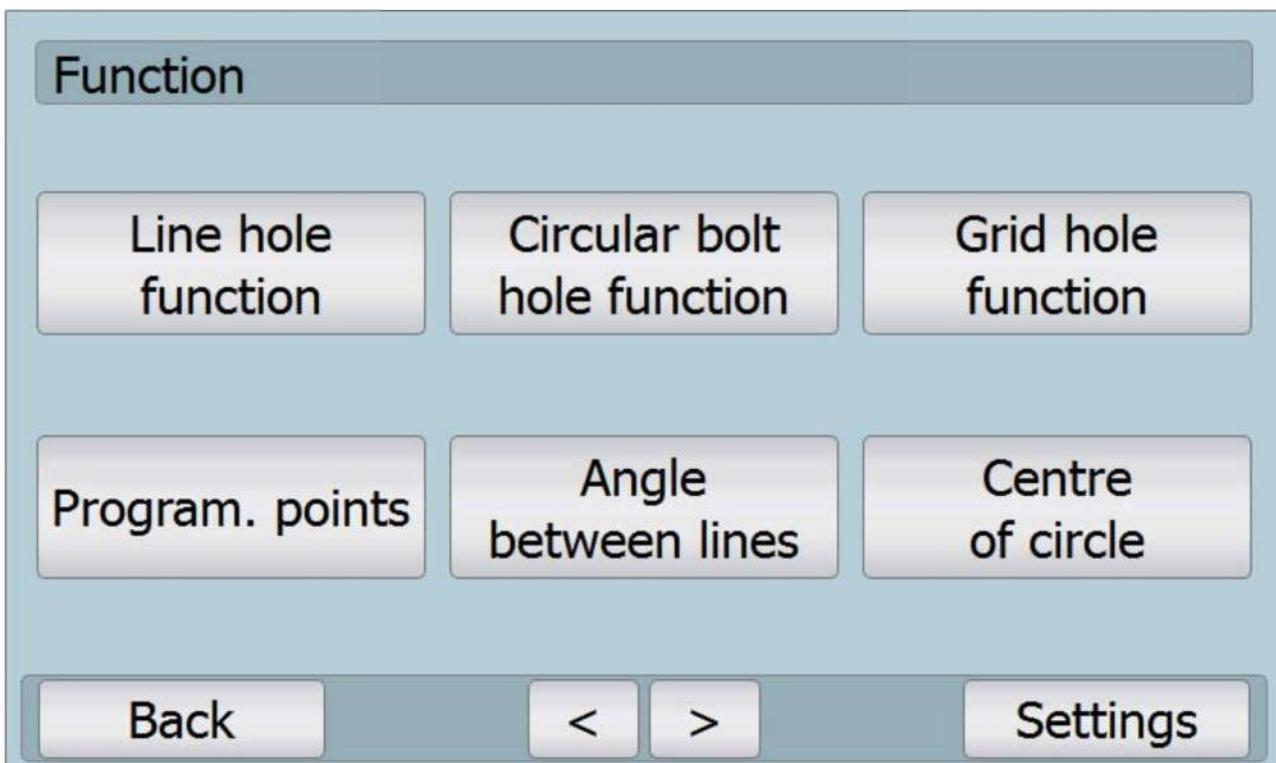

Fig. 7: The extension menu functions for the device type miller
⑩ Pressing the button „Menu“ displays the option with functions and setting. If in the mode for the grinder or the lathe, the buttons are not displayed „<“ a „>“ for other functions.
⑩ If in the mode for the miller and the buttons are used for the selection of other functions („<“ and „>“), the extension functions are displayed (see fig. 7: The extension menu functions for the device type miller).
- ⑩ Miller parameter setting
- ↳ In this type of device, the menu displays functions for drilling holes, angle search between the lines or searching for the circle centre (see fig. 7: The extension menu functions for the device type miller).
- ⑩ It is possible to set the machine shift for individual axes.
- ⑩ The values can be changed for every axis separately.
- ⑩ In case of selecting the device type lathe or grinder cannot use the extending functions (see fig. 7: The extension menu functions for the device type miller).